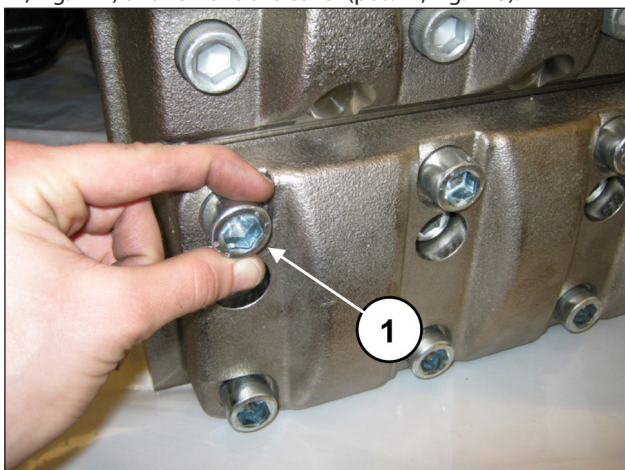
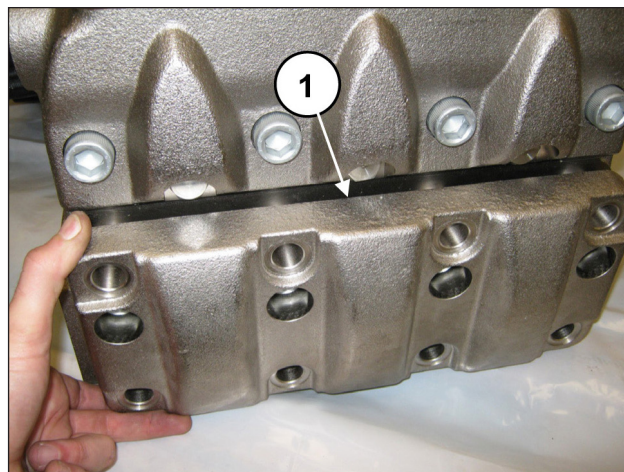

Fig. 142
Fig. 143
Unscrew the 8 M18x65 screws of the suction valves cover (pos. ①, Fig. 142) and remove the cover (pos. ①, Fig. 143).